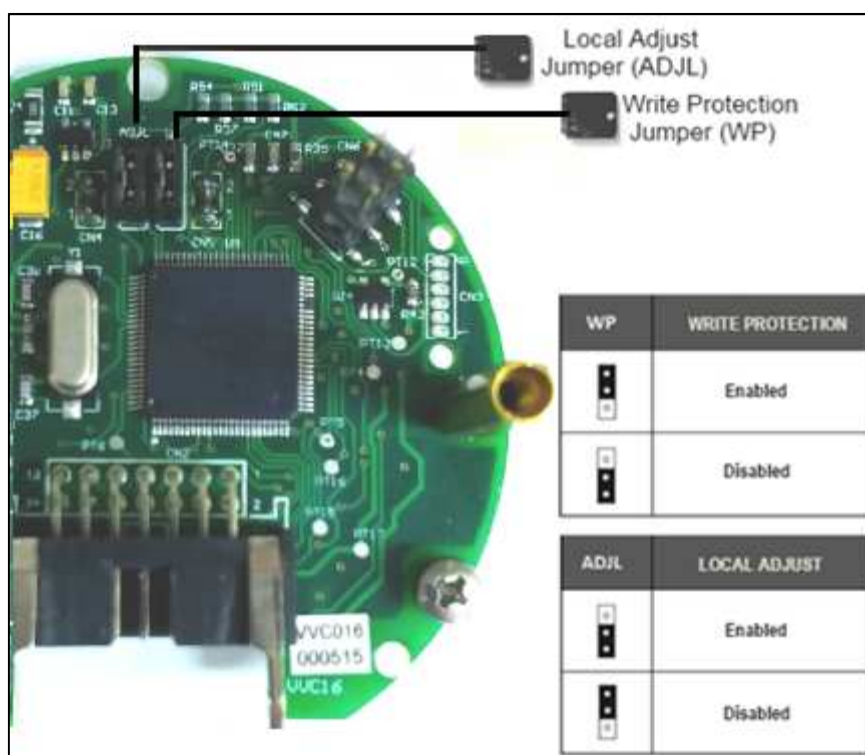

Figure 3.2 – Jumpers WP (write protection) and ADJL (local adjust) on VPO10 main board.
VPO10 has two jumpers on its main board to protect data writing (WP) and enabling/disabling local adjust (ADJL). Figure 3.2 presents those jumpers.